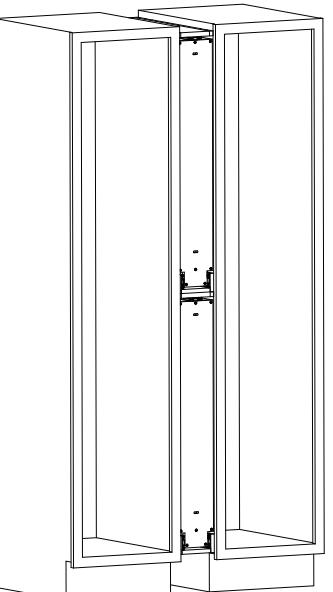

Fig 9
Step 7. Mount filler cabinet pull-out to adjacent cabinet 2. (See fig. 9).
(Voir la figure 9).